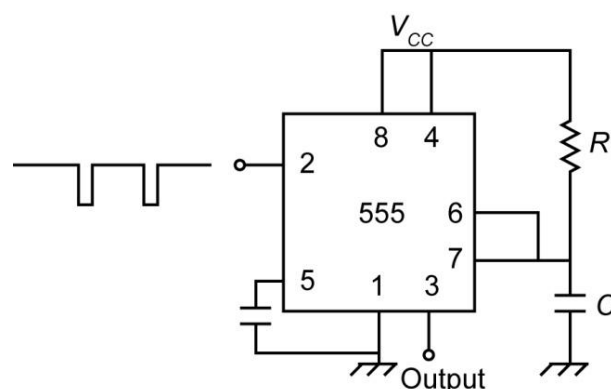

Fig. 5.1: Monostable multivibrator.
The configuration required to build a monostable multivibrator is shown in Fig. 5.1.
It would be a good idea to use a series combination of resistors with potentiometer as the timing resistor R' in Fig. 5.1. If you choose a time duration of over a few second using suitable R' and timing capacitor C , you can watch the output of the multivibrator going high and returning to the zero state even without an oscilloscope just by using an analog multimeter. In such a case, you can just connect a tap key between terminal 2 of IC555 and ground to provide a short duration manual trigger pulse.
1. Connect the circuit as shown in Fig. 5.1.